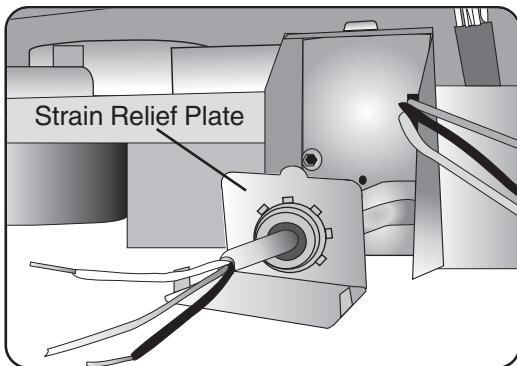

Figure 27
- 2 Pass the electrical supply cable through the strain relief, as shown in **Figure 27**. Leave 3 - 4 inches of insulated wire extending through the strain relief plate.